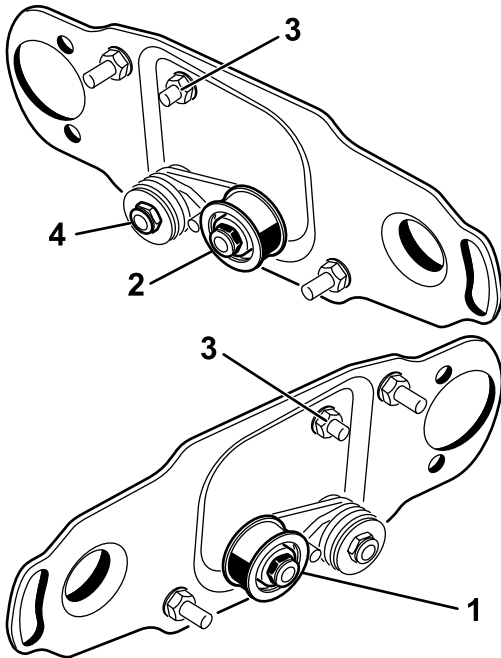

Figure 2
On the left front and left rear cutting units, reverse the idler pulley assembly to mount on the **right end** of the cutting unit (Figure 2), as follows:
1. Remove the idler pulley assembly from the left end of the cutting unit and mount it to the lower hole in the brush plate on the right end of the cutting unit (Figure 2).
2. Remove the carriage bolt and nut and relocate them to the upper hole previously occupied by the idler pulley assembly (Figure 2).